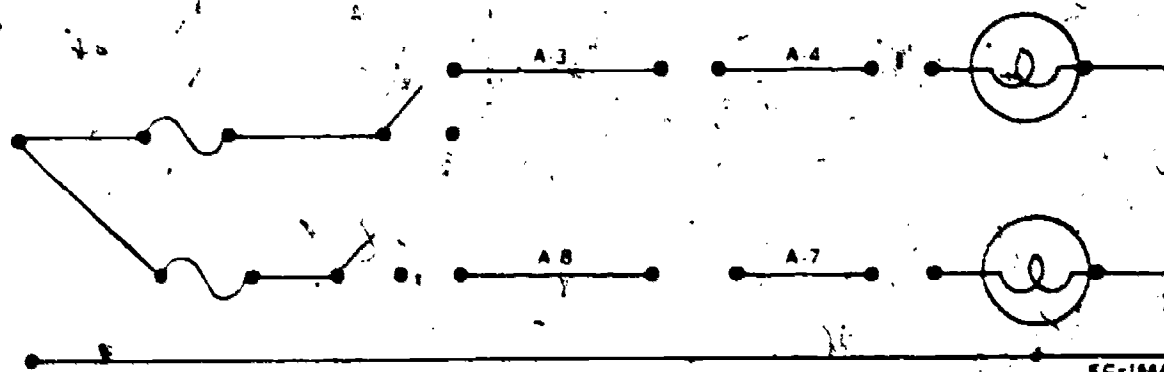

Figure 60. Probable Leads Isolated
**LOCATING CROSS SHORTS.** The same testing devices and procedures are used in locating cross shorts as were used in locating direct shorts. Power must be off and the positive leads of both circuits isolated. (See figure 60.)